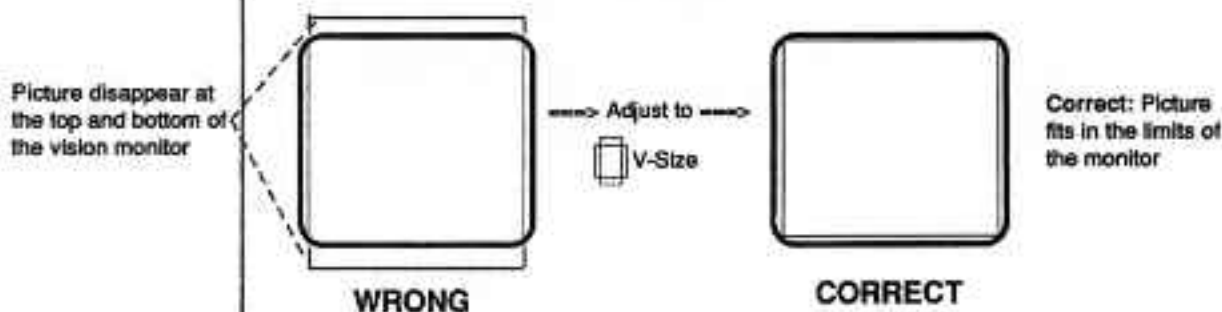

Figure 8.2.3.3.1. Adjusting the vertical size of the monitor
- Step 7:** Make sure the Vertical size (V-Size) of the monitor is set correctly. The V-Size should be set in such a way that the full picture can be shown on the vision monitor. The picture may not disappear at the top and bottom of the monitor. Adjusting the vertical size of the monitor can usually be done by the V-Size knob that is, in most cases, located at the backside of the monitor. See also figure 8.2.3.3.1.